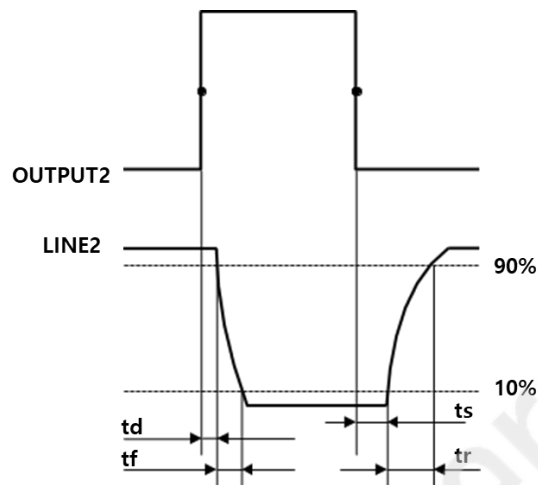

Figure 7-23 Parameter of Line2 output circuit (2.5GigE)
Rising time delay = $t_r + t_d$: $< 20 \mu\text{s}$ (0°C to 45°C) (parameter description as shown in Figure 7-23)
- Falling time delay = $t_s + t_f$: $< 20 \mu\text{s}$ (0°C to 45°C) (parameter description as shown In Figure 7-23)